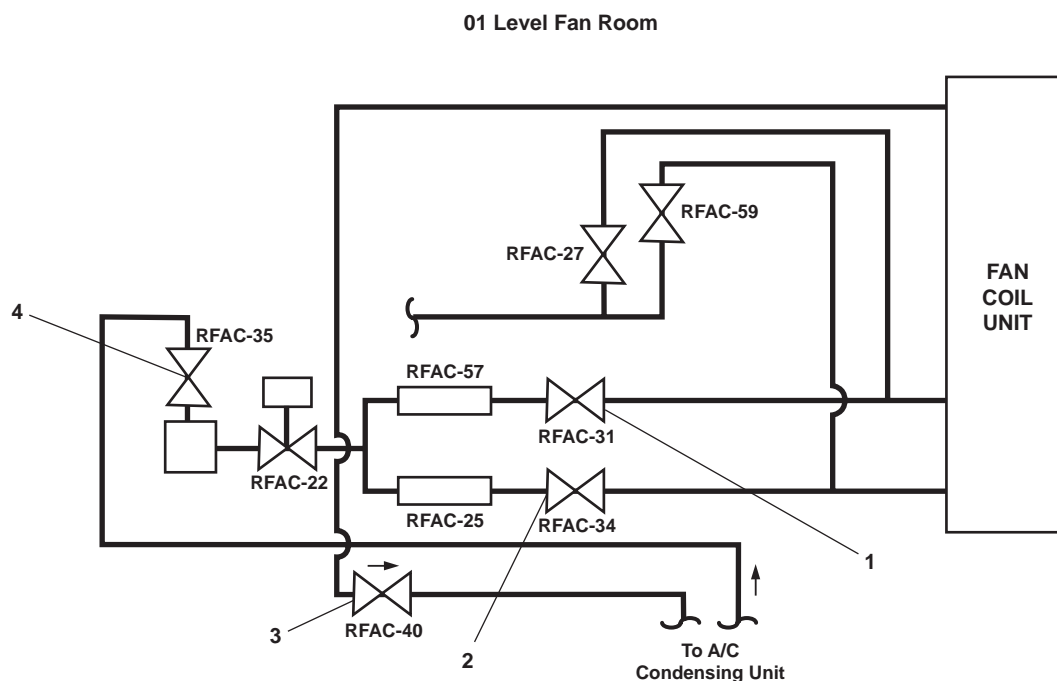

Figure 4. 01 Level Fan Room Air Conditioning Refrigerant Valves
- a. RFAC-31, EQL LINE (figure 4, item 1), TXV outlet
- b. RFAC-34, TXV COV, R01-32-2 (figure 4, item 2), TXV outlet
- c. RFAC-40, COIL SUCT COV, R01-32-2 (figure 4, item 3), coil suction
- d. RFAC-35, TXV COV, R01-32-2 (figure 4, item 4), TXV inlet